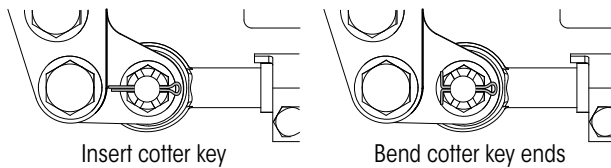

Figure 13: Tie rod end cotter key install
5. Insert the cotter pin through castle nut and tie rod end, as shown in Figure 13.